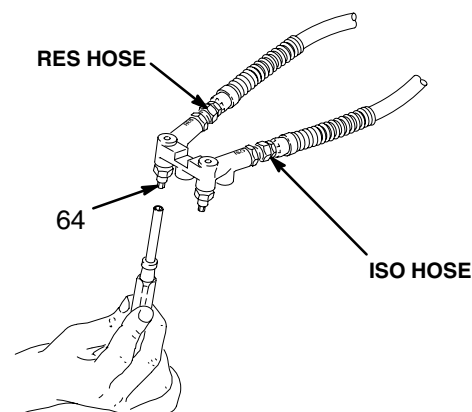

Fig. 15
1. Close the feed pump air inlet valves or regulators (8).
2. Close the heater drain valves (61).
3. Close the needle valves (64) of the spray gun manifold. See Fig. 15.
3. Open the manifold needle valves (64). See Fig. 15, page 15. Allow the material to flow out until all air is purged from the sprayer and the spitting stops.